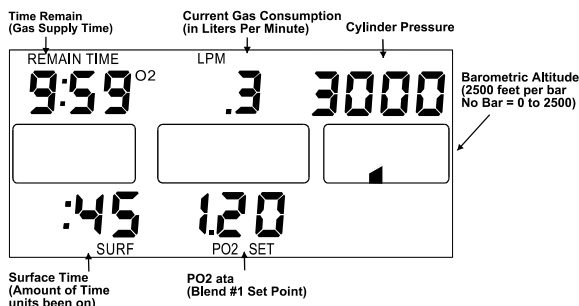

Figure 02b Surface Mode, No Nitrogen, PO2, Primary Screen
**SURFACE INTERVAL - SINGLE GAS PO2:** The Surface Interval is the same as in the Single Gas Nitrox configuration; refer to page 5 for a detailed discussion. The exception is that the Alternate Screen displays the Current PO2 set point value, current calculated CNS and OTU values. Figure 02b shows the display with no residual Nitrogen (a clean Dive).